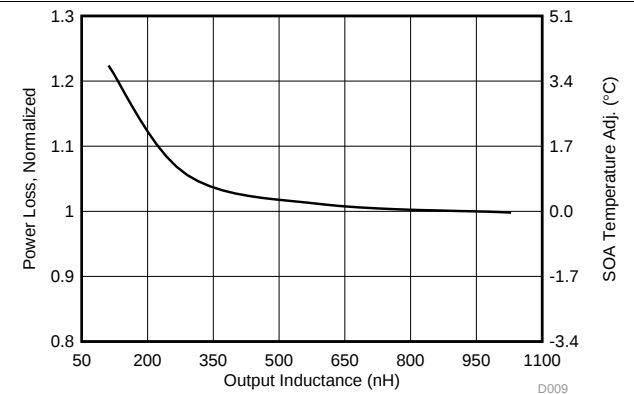

Figure 8. Normalized Power Loss vs Output Inductance
- Normalized power loss for output inductor ≈ 1.01 (Figure 8)
- SOA adjustment for output inductor $\approx 0.18^{\circ}\text{C}$ (Figure 8)